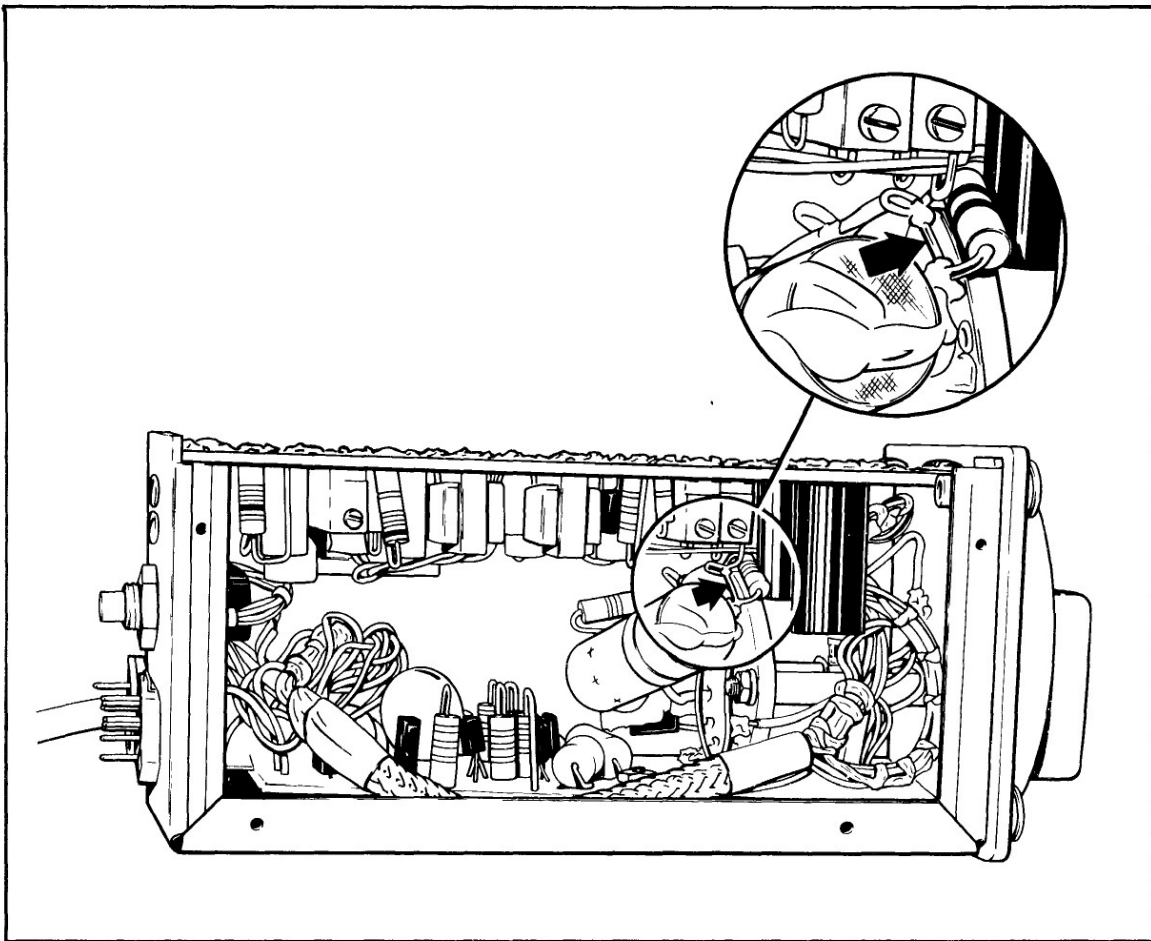

Figure 5-6. Piper Omni/Localizer Coupler Modification Detail
3. Locate clipped jumper across 10K resistor. (Refer to Figure 5-6.)